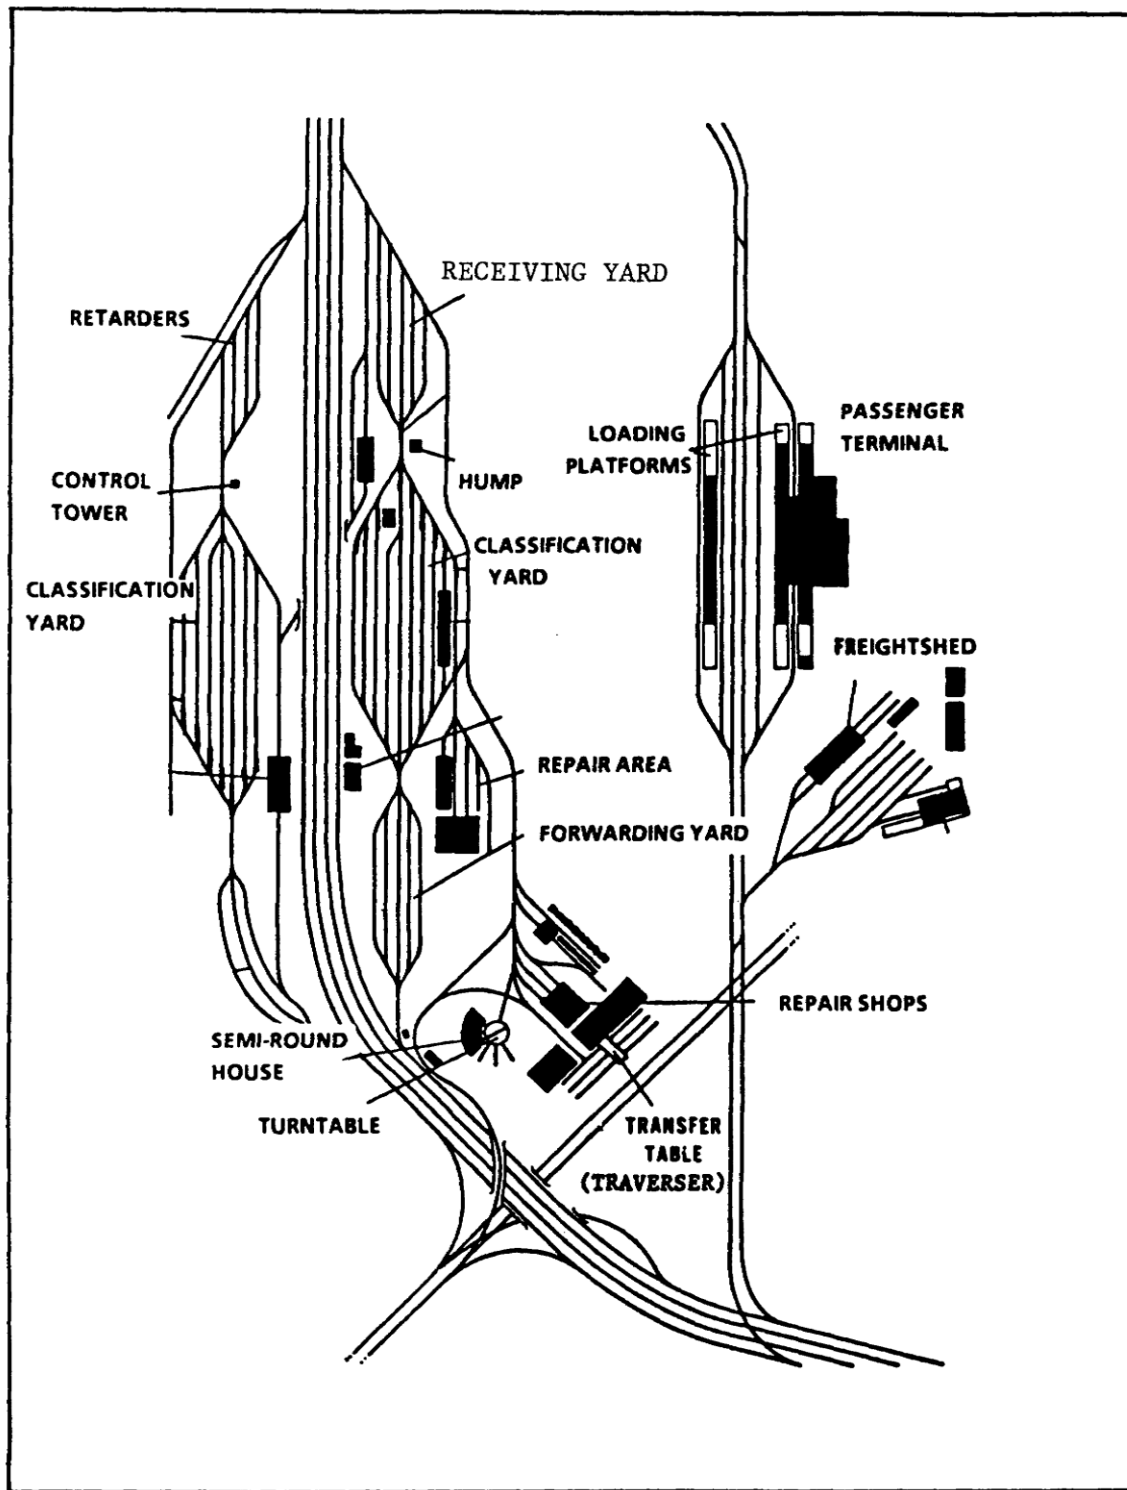

Figure 1-1. Standard Railway Facilities.
1. Railways In general. It is necessary to consider those facilities that are required for carrying out the railroad's basic mission, the movement of passengers and freight. Railway facilities can conveniently be divided into three basic groups (Figure 1-1):